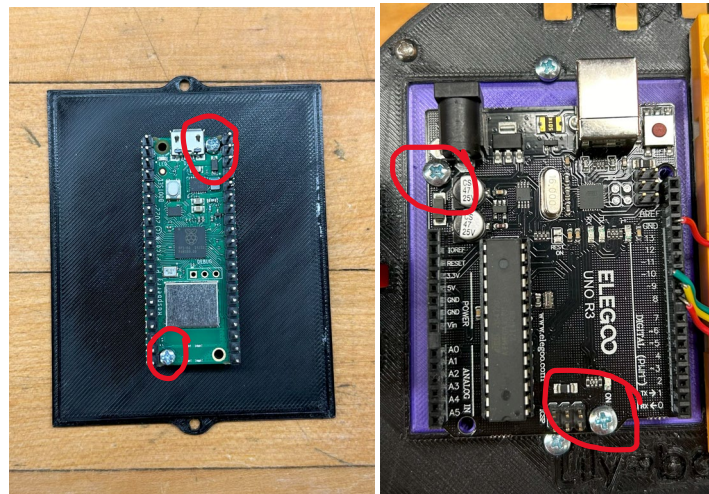

Figure 12: Pico and Uno microcontrollers screwed into their mounts
12. Some Pico and Uno controller mounts are snap-ons and some have holes to screw into. For the former, carefully snap the controller in place, lining the holes of the controller with the mounts and pressing slowly. For the latter, use two 6 mm screws to mount the controller. Figure 12 shows the Pico and Uno attached to the module with screws.